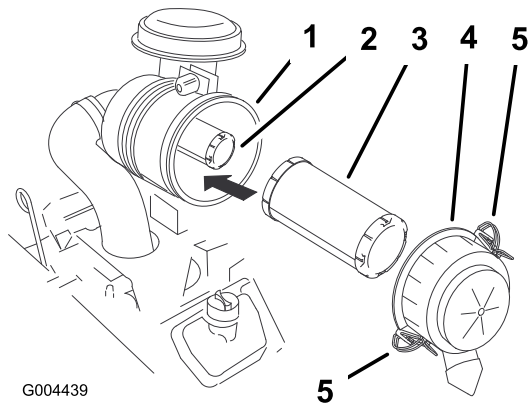

Figure 35
3. Clean around the air cleaner to prevent dirt from getting into the engine and causing damage. Release the latches on the air cleaner and pull the air cleaner cover off of the air cleaner body (Figure 35).
4. Clean the inside of the air cleaner cover with compressed air (Figure 35).
5. Gently slide the primary filter out of the air cleaner body (Figure 35). Avoid knocking the filter into the side of the body.
1. If installing new filters, check each filter for shipping damage. Do not use a damaged filter. (Figure 35).
2. If the safety filter is being replaced, carefully slide it into the filter body (Figure 35).
3. Carefully slide the primary filter over the safety filter (Figure 35). Ensure that it is fully seated by pushing on the outer rim of the filter while installing it.
4. Install the air cleaner cover with the side indicated as UP facing up and secure the latches (Figure 35).